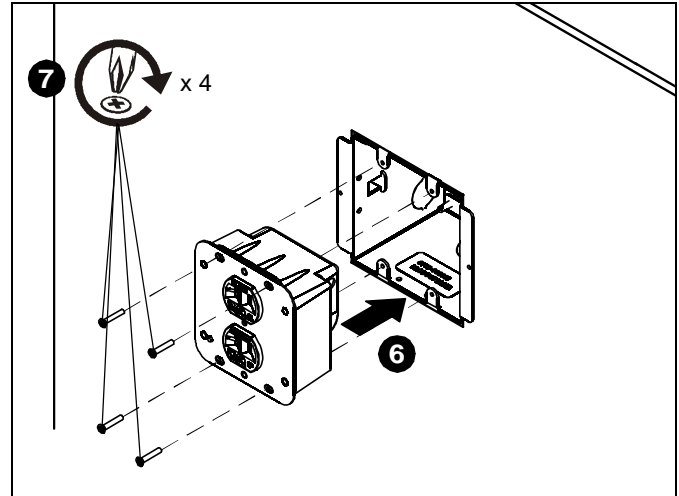

Figure 6
6. Replace the outlet in the PX2W. (See Figure 6)
7. Replace and tighten the two Phillips screws removed in Step 1 and also install two Phillips 6-32 x 3/4" screws (D). (See Figure 6)